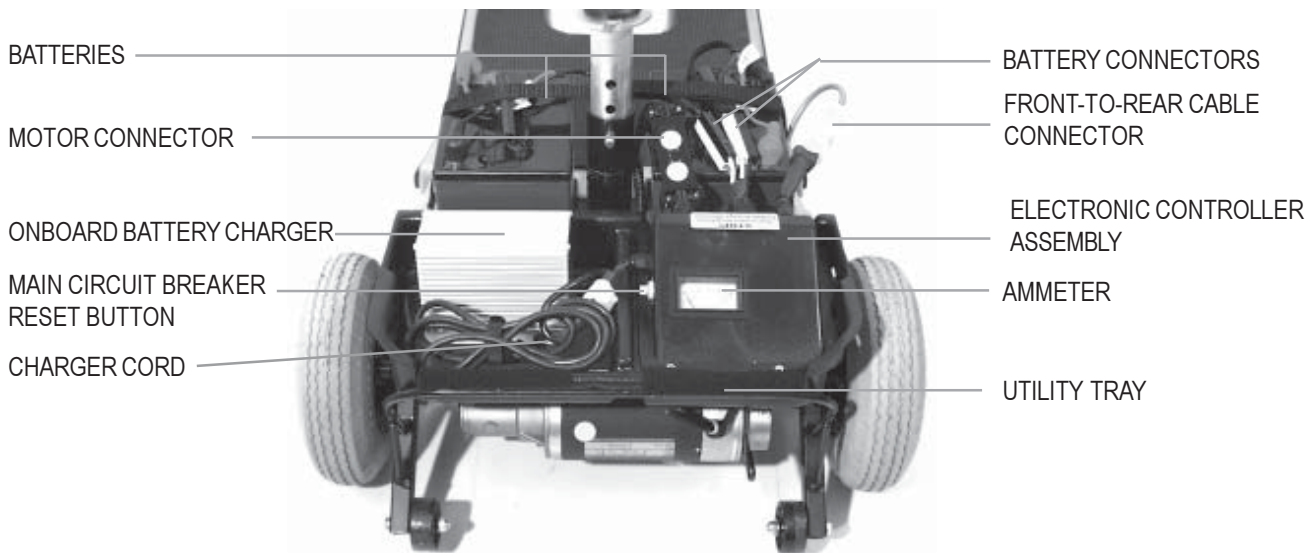

FIGURE 7. UTILITY TRAY COMPONENTS
- The charger is located on the utility tray. See figure 7.
The electronic controller assembly is located behind the batteries and at the forward right corner of the Sidekick's rear. See figure 7. This assembly receives electrical signals from the control console assembly controls and sends power to the motor, the brakes, and the lighting system (optional).
- The main circuit breaker is mounted on the utility tray, behind the electronic controller assembly. See figure 7.
Your Sidekick uses two long-lasting, 12-volt, deep-cycle batteries that are sealed and maintenance free. They are recharged by an onboard 3-amp charging system designed for ease of use and convenience. See figure 7.